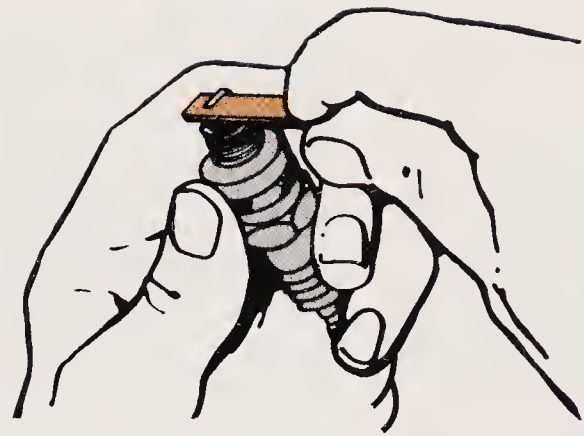

Figure 14-5. Oxides should be removed from electrodes with a spark plug file.
4. File spark plug electrodes after cleaning to square them and to remove any oxide or scale from the surfaces. Open the gap so that a spark plug file can be put between the electrodes. See **Figure 14-5**.